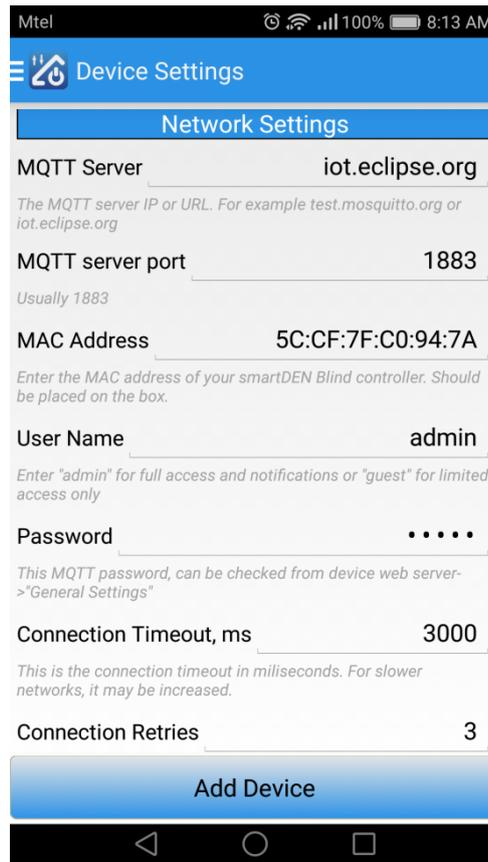

Figure 6.32. smartDEN Opener - Cloud Settings
2. Add **smartDEN Opener - Cloud** board. In this example default settings are used (**Figure 6.32**).